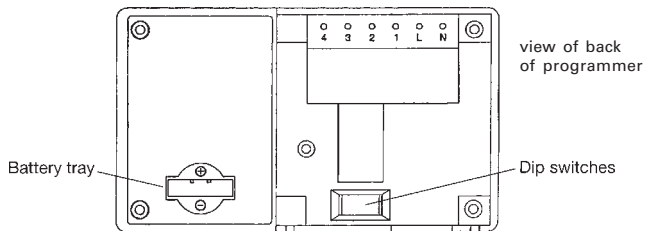

Fig. 1
5. Prior to installing onto the backplate, insert the battery into the battery tray (see Fig. 1) and ensure that positive + and negative - are correctly installed. The battery is a non-rechargeable lithium cell and in the event of power failure will protect your programme instructions for up to 365 continuous days of power loss.